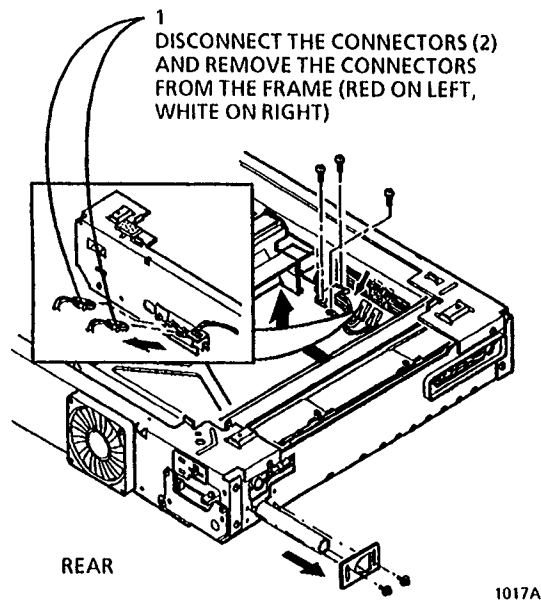

Figure 1. Preparing to remove the Full-Rate Lamp Carriage
3. (Figure 1): Remove the connectors from the frame.